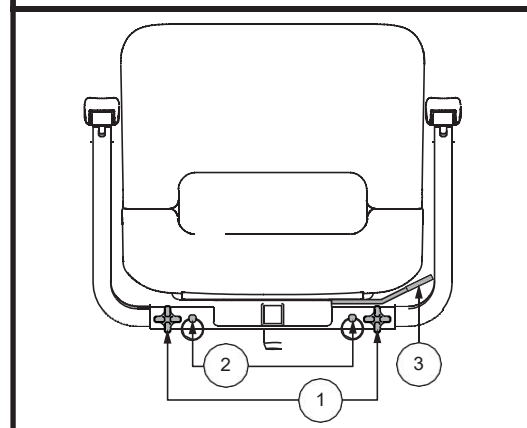

Figure 24. Seat Adjustments
The seat rotation lever, located on the right side of the seat base, secures the seat into several positions. See figure 24.
1. Loosen the armrest adjustment knobs. See figure 24.